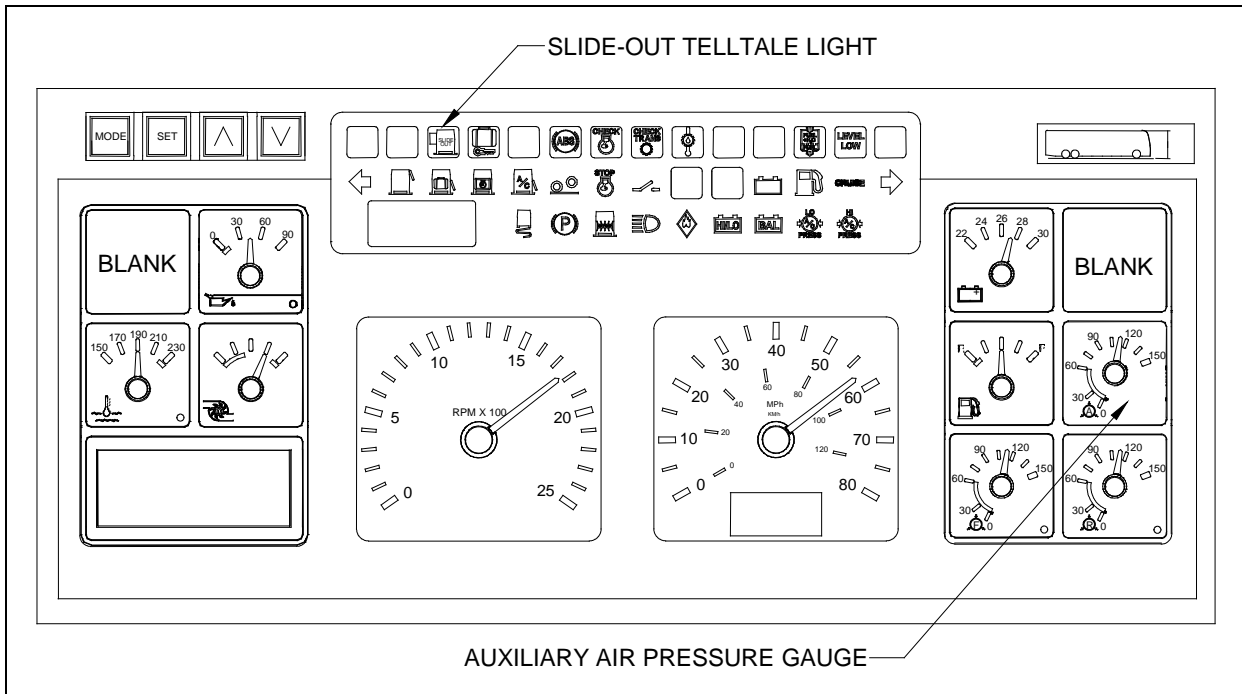

FIGURE 4 : VEHICLE DRIVER CONSOLE
2. Make sure the air pressure is 110 PSI minimum on the auxiliary air pressure gauge (figure 4).
1. Make sure the air pressure is 110 PSI minimum on the auxiliary air pressure gauge (refer to figure 4).